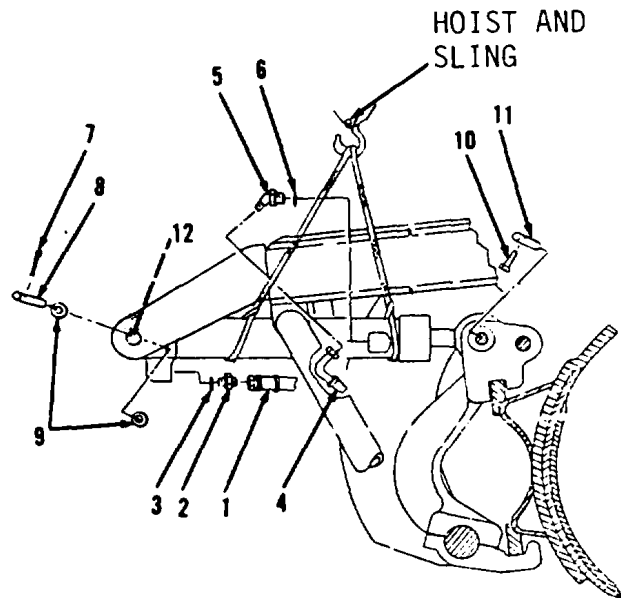

Figure 10-126.
5. Install pin (11, Figure 10-126).
6. Install bolt (10).
7. Position two spacers (9). Align spacers (9) with hole through seals (12).
8. Install pin (8) by pushing carefully through spacers (9). Use care not to damage seals (12).
9. Install new cotter pin (7) in pin (8).
11. Install new preformed packing (6) and elbow (5).
12. Connect hose assembly (4) to elbow (5).
13. Install new preformed packing (3) and connector (2).
14. Connect hose assembly (1).